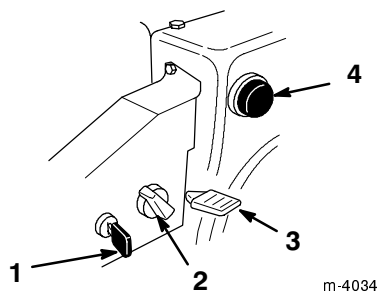

Figure 4
- **Ignition Switch** (Fig. 4)—Insert the key before starting the engine. To stop the engine, remove the key.
- **Choke** (Fig. 4)—Rotate the choke clockwise to the *On* position to start a cold engine. As the engine warms up, gradually move the choke counterclockwise to the *Off* position.
- **Throttle** (Fig. 4)—Move the throttle upward to increase the engine speed and downward to decrease the engine speed. Move the throttle completely downward to stop the engine.
- **Primer** (Fig. 4)—Press the primer to pump a small amount of gasoline into the engine for improved cold-weather starting.
2. Remove the key from the ignition switch (Fig. 4).
3. Pull the choke knob off (Fig. 4).
4. Rotate the choke (Fig. 4) to the *On* position.
5. Insert the ignition key (Fig. 4).
6. Cover the hole in the center of the primer (Fig. 4) with your thumb and slowly push in the primer three times.
8. After the engine starts, immediately rotate the choke (Fig. 4) to the 3/4 position. As the engine warms up, rotate the choke to the 1/2 position. When the engine warms up sufficiently, rotate the choke to the *Off* position.
6. Close the fuel shutoff valve (Fig. 4).